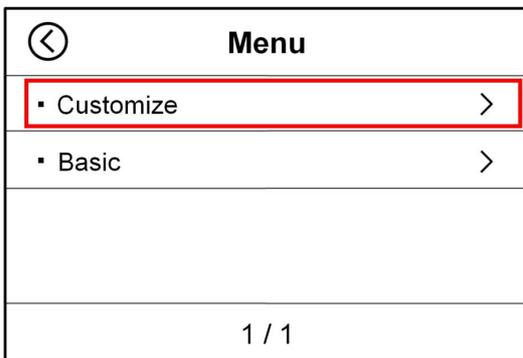
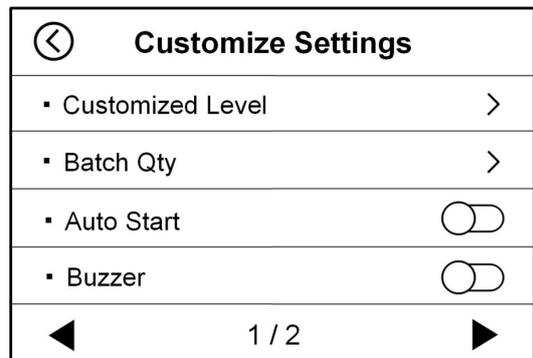
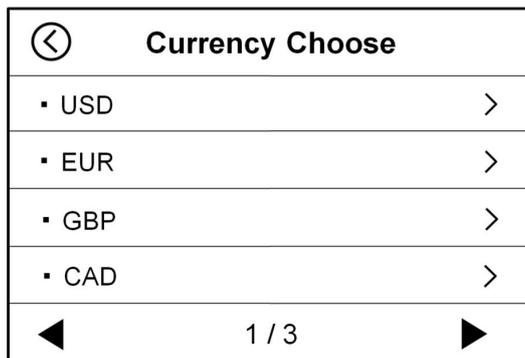

Figure 39
Figure 40
Figure 53
- 1) Press the “” key to enter the main interface of USER MENU, as shown in Figure 39 below, Press “**Customize**” to enter into Customize Settings, as Figure 40.
- 2) Touch Click “**Customized Level**” under Figure 40 to enter into counterfeit detection level setting interface, as Figure 53 shows: